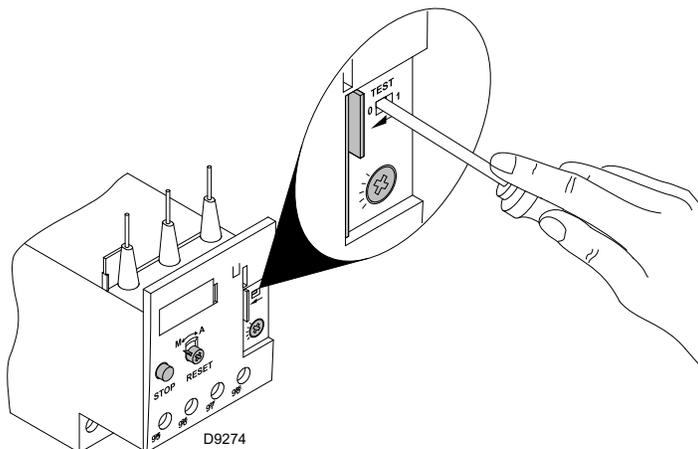

Fig. 31
- To test the thermal relay, insert a screwdriver in the window "TEST" (Fig. 31) and move it in the sense of the arrow (towards right).